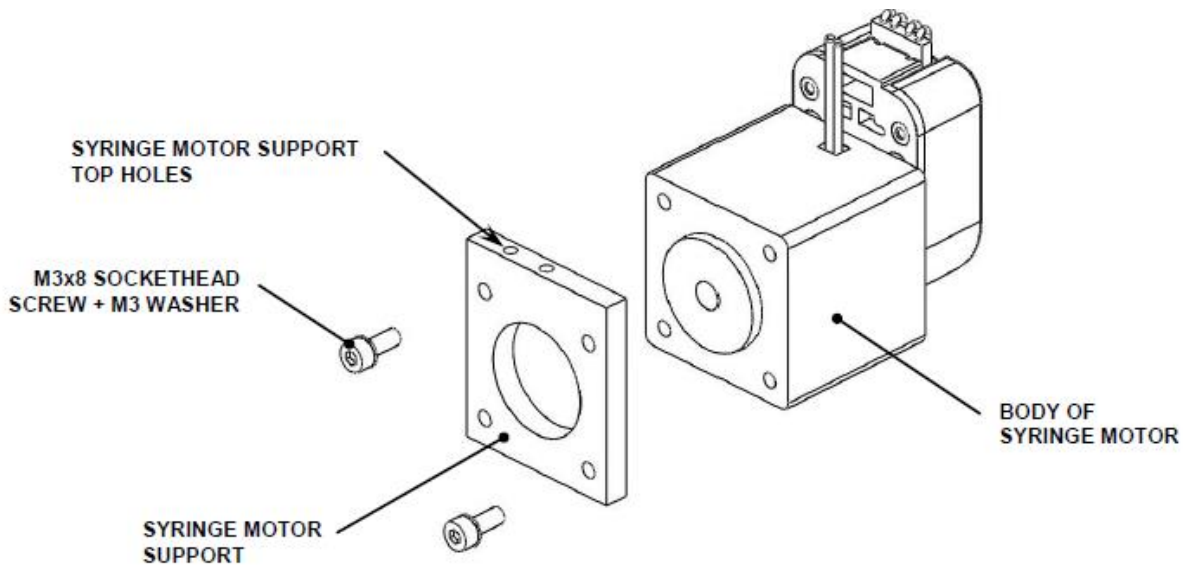

Figure U-24: Syringe Motor Support
4. Place the body of the Syringe Motor on the Syringe Motor Support and fix it with two M3x8 Socket Head Cap Screws and two M3 Washers as shown in Figure U-24 using Loctite 222. Note encoder position and top holes on the Syringe Motor Support. Connect Encoder Cable.
7. Screw two standoffs (M3x50) into the .Syringe Motor Support (Figure U-24), holes that are not filled with screws